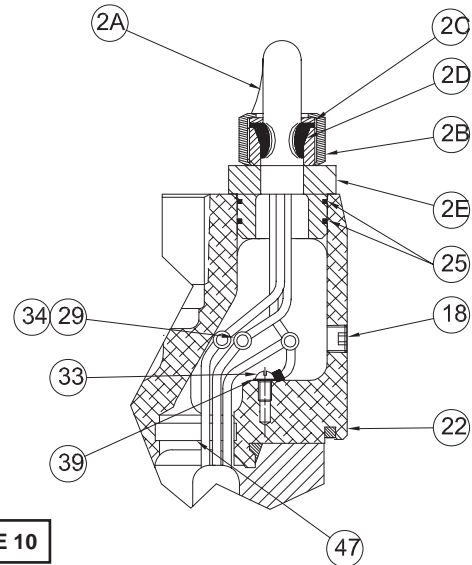

FIGURE 10
Remove capscrews (31), flat washers (49), lockwashers (55) and quad rings (56) from discharge head (22) and handle (58). Carefully, using a plastic hammer, tap the discharge case (22) free from the frame assembly and remove while feeding the stator wires through the terminal cavity and stator dam (47) in the discharge case. Now remove o-rings (19) and (20), replace o-rings showing any nicks, cuts, cracks, or deformation. To remove cable (2a), loosen cable grip nut (2b), cable grip (2c) and bushing (2d) and remove from cable. (See Figure 10).